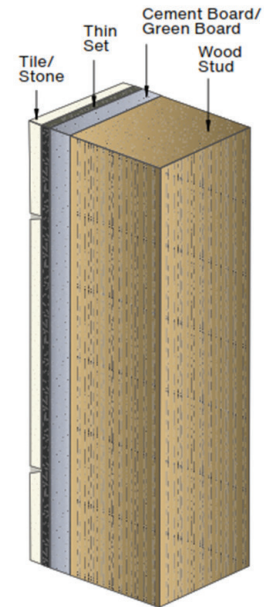

FIGURE 2 Example of adequate substrate – wood stud
1. Wood stud behind tile/stone layered on masonry mortar/cement board/greenboard (Figure 2). Fastening into a wood stud directly behind the bedding material (masonry mortar/cement board/greenboard) is the best form of structural backing.